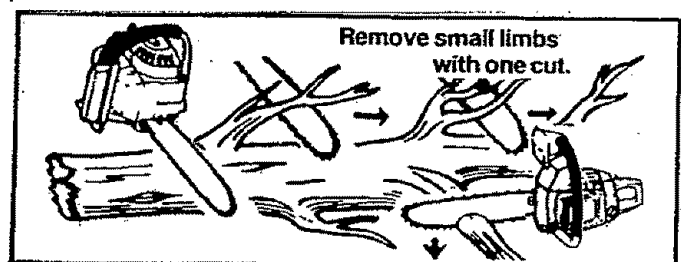

Figure 28
- c. Start at the base of the felled tree and work towards the top, cutting branches and limbs. Remove small limbs with one cut. Figure 28.